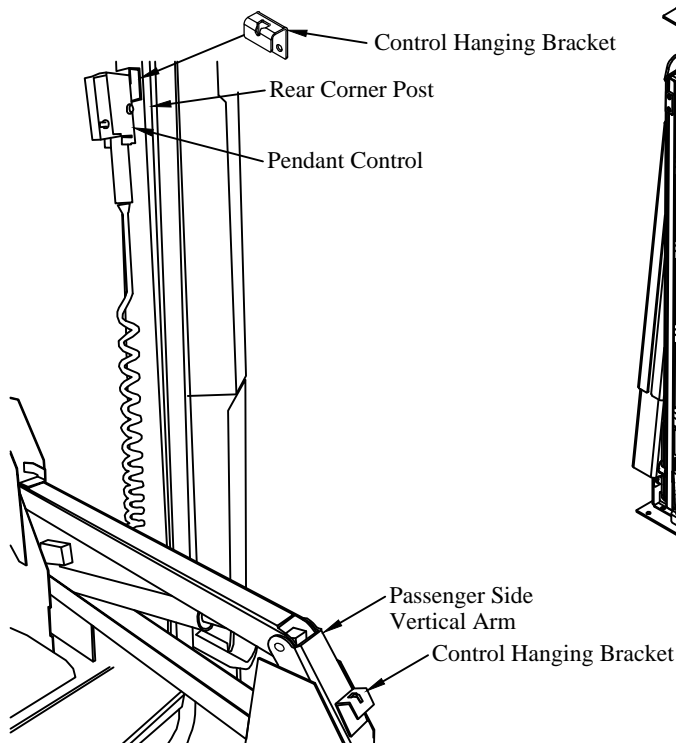

Figure 23: Control Hanging Brackets.
7. **Select** a location to install the control hanging bracket. Use a location on the passenger side rear corner post of the van at a height that allows the entire pendant cord to be completely inside the van when stored (Figure 23).
12. **Install** second control hanging bracket with supplied 3/8" bolts on the passenger side vertical arm where the lifting angle was removed (Figure 23).